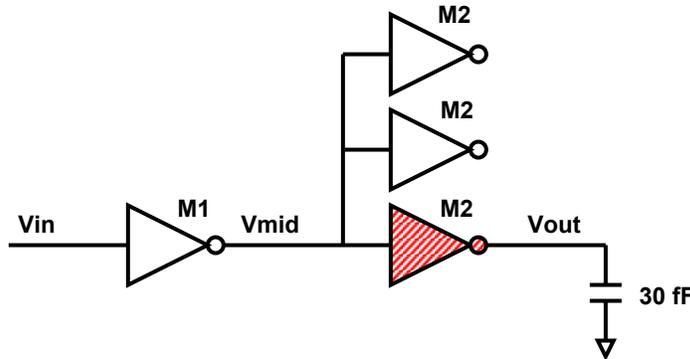

Figure 1: Inverter Circuit
**2. Transistor Sizing:** We want to determine the transistor sizes (widths) of the devices in the inverters labeled M2 in Figure 1. M1 and M2 denote particular size combinations of NMOS and PMOS devices in inverters. Inverter M1 has a PMOS device with  $W_p=2.4\mu\text{m}$  and an NMOS device with  $W_n=1.2\mu\text{m}$ . Use the  $K_{eq} = 0.7$  approximation and standard capacitance parameters above to develop a capacitance  $C_L$  equation for  $V_{mid}$  in terms of the  $W_p$  and  $W_n$  of each device in M2. Assume the standard 0.25 $\mu\text{m}$  process technology parameters. Remember to consider the Miller effect when calculating capacitances for this problem. All devices will use minimum channel length.